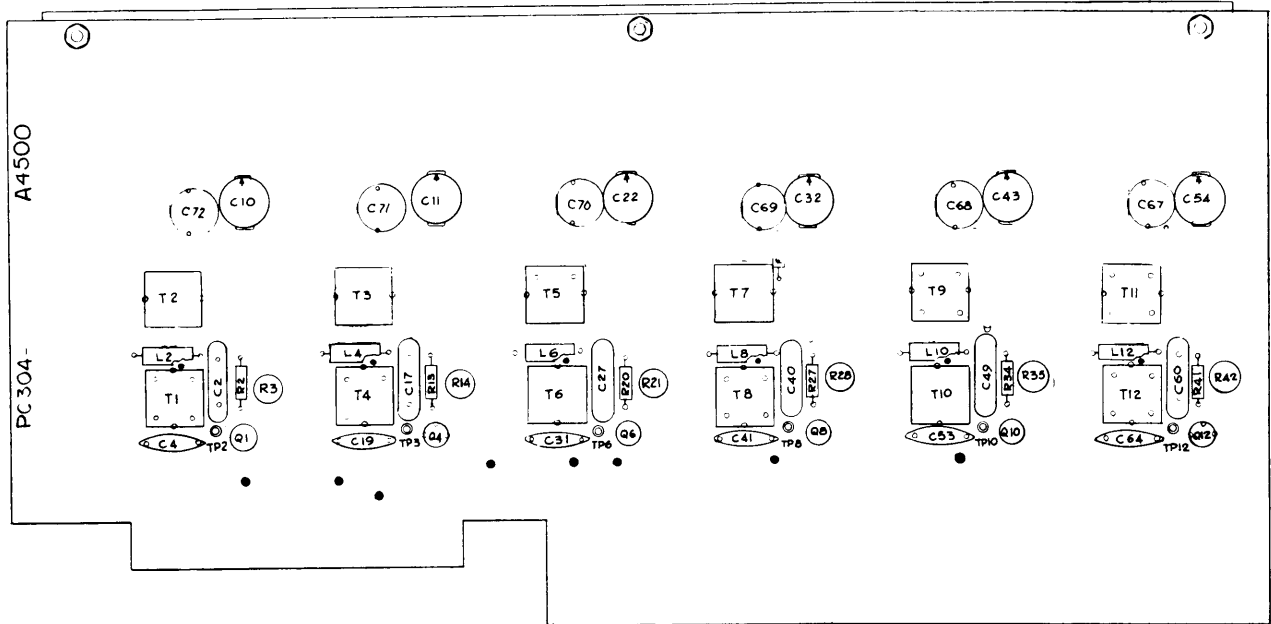
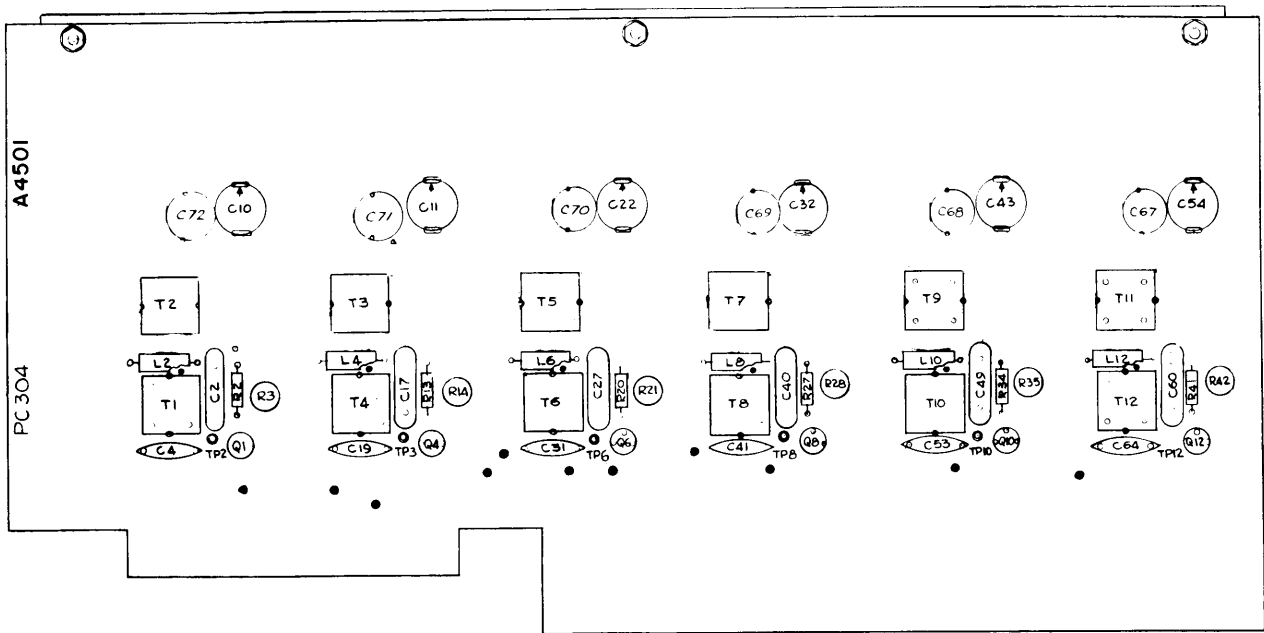

Figure 5-5. Comb Filter Z102, Adjustments
Figure 5-6. Comb Filter Z103, Adjustments
c. COMB FILTER Z102. (See figure 5-5.)
(1) Place 100 kHz, 10 kHz, 1 kHz, 100 Hz switches to blank positions.
(2) Connect scope and counter to TP12, ground lead to pin 15. Adjust T12 for maximum 800 kHz signal. Then adjust R42 for 0.7 volt P-P.
(3) Connect scope and counter to TP10. Adjust T10 for maximum 1.0 MHz signal; then adjust R35 for 0.7 volt P-P.
(4) Connect scope and counter to TP8. Adjust T8 for maximum 1.2 MHz signal; then adjust R28 for 0.7 volt P-P.
(5) Connect scope and counter to TP6. Adjust T6 for maximum 1.4 MHz signal; then adjust R21 for 0.7 volt P-P.
(6) Connect scope and counter to TP3. Adjust T4 for maximum 1.6 MHz signal; then adjust R14 for 0.7 volt P-P.
(7) Connect scope and counter to TP2. Adjust T1 for maximum 1.8 MHz signal; then adjust R3 for 0.7 volt P-P.
d. COMB FILTER Z103. (See figure 5-6.)
(1) Set 100 kHz, 10 kHz, 1 kHz, 100 Hz selectors to blank positions.
(2) Connect scope and counter to TP12, ground lead to pin 15. Adjust T12 for maximum 900 kHz signal; then adjust R42 for 0.7 volt P-P.
(3) Connect scope and counter to TP10. Adjust T10 for maximum 1.1 MHz signal; then adjust R35 for 0.7 volt P-P.
(4) Connect scope and counter to TP8. Adjust T8 for maximum 1.3 MHz signal; then adjust R28 for 0.7 volts P-P.
(5) Connect scope and counter to TP6. Adjust T6 for maximum 1.5 MHz signal; then adjust R21 for 0.7 volt P-P.
(6) Connect scope and counter to TP3. Adjust T4 for maximum 1.7 MHz signal; then adjust R14 for 0.7 volt P-P.
(7) Connect scope and counter to TP2. Adjust T1 for maximum 1.9 MHz signal; then adjust R3 for 0.7 volt P-P.